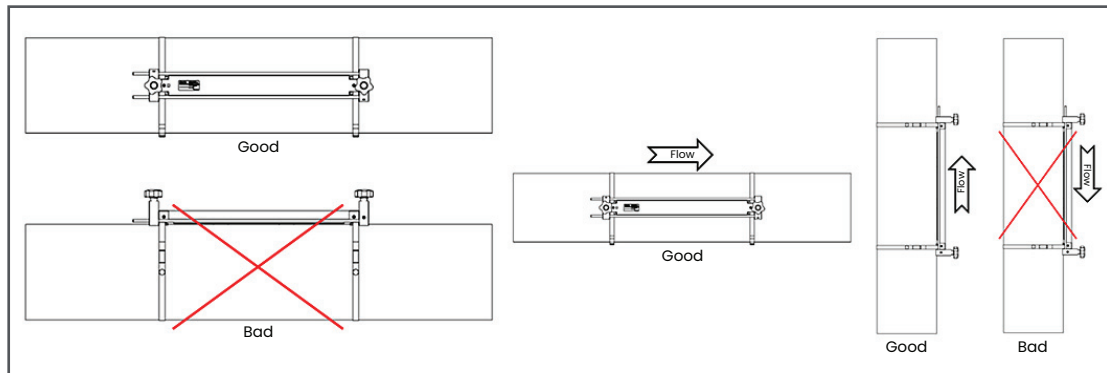

Figure 7: Good and Bad Transducer Locations
- Locate the transducers on a common axial plane along the pipe (see *Figure 7* below). The transducers should be mounted on the side of the pipe, rather than the top or bottom, because the top of the pipe tends to accumulate gases and the bottom tends to accumulate sediment. Either condition may cause excessive attenuation of the ultrasonic signal. There is no similar restriction with vertical pipes, as long as the flow direction is upward to prevent free falling of the fluid in a partially filled pipe.